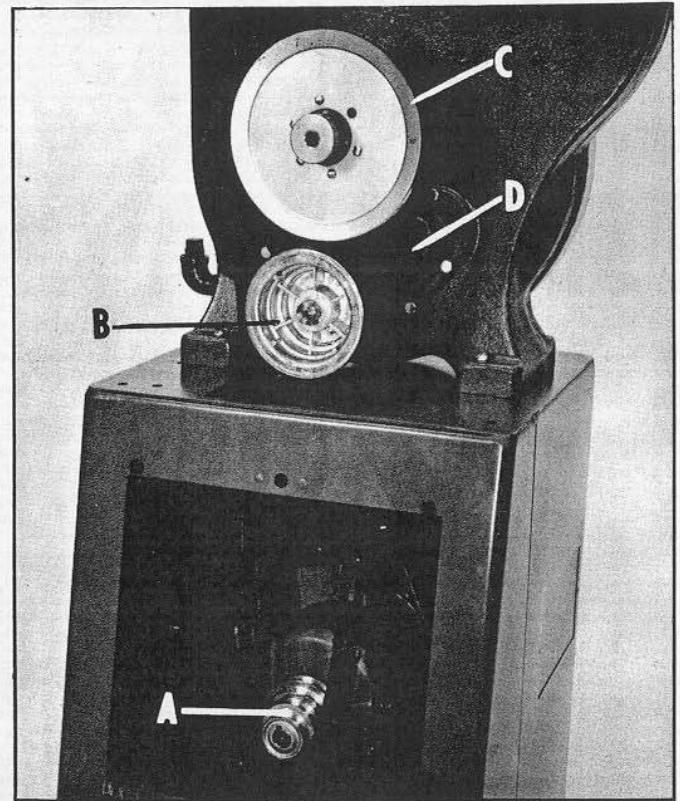

Fig. 8
5. Assemble motor pulley (A) Fig. 8, to the motor shaft as shown. When assembling the motor pulley (A) to the motor shaft it is necessary to use 3/4" to 5/8" reducing bushing on the motor shaft. NOTE: Rockwell motors recommended for use with this band saw have 5/8" motor shafts. The motor pulley (A) Fig. 8 is supplied with a 3/4" bore to enable it to be interchanged with the gear box pulley (B) as explained later in this manual.
6. Using a straight edge align the inside grooves of the pulleys (A) and (B) to the pulley (C) Fig. 8. The pulleys can be moved in or out on the shafts and also the motor mounting plate can be moved if necessary.
7. Assemble the large V-Belt (D) to the inside groove of the motor pulley (A) and to the large pulley (C). Assemble the smaller V-Belt to any one of the remaining three grooves of the motor pulley (A) and the corresponding groove of the gear box pulley (B) Fig. 8.